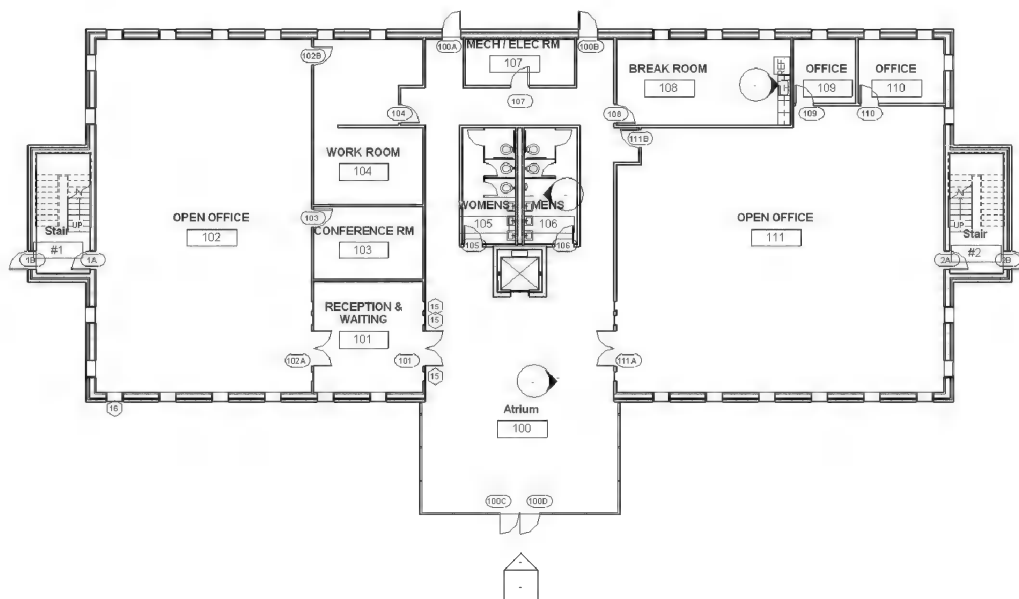

FIGURE 12-1.5 Level 1 – door tags (scale changed to make tags larger on this page)
13. Renumber all the door tags to correspond to the room they open into; do this for each level (Figure 12-1.5).